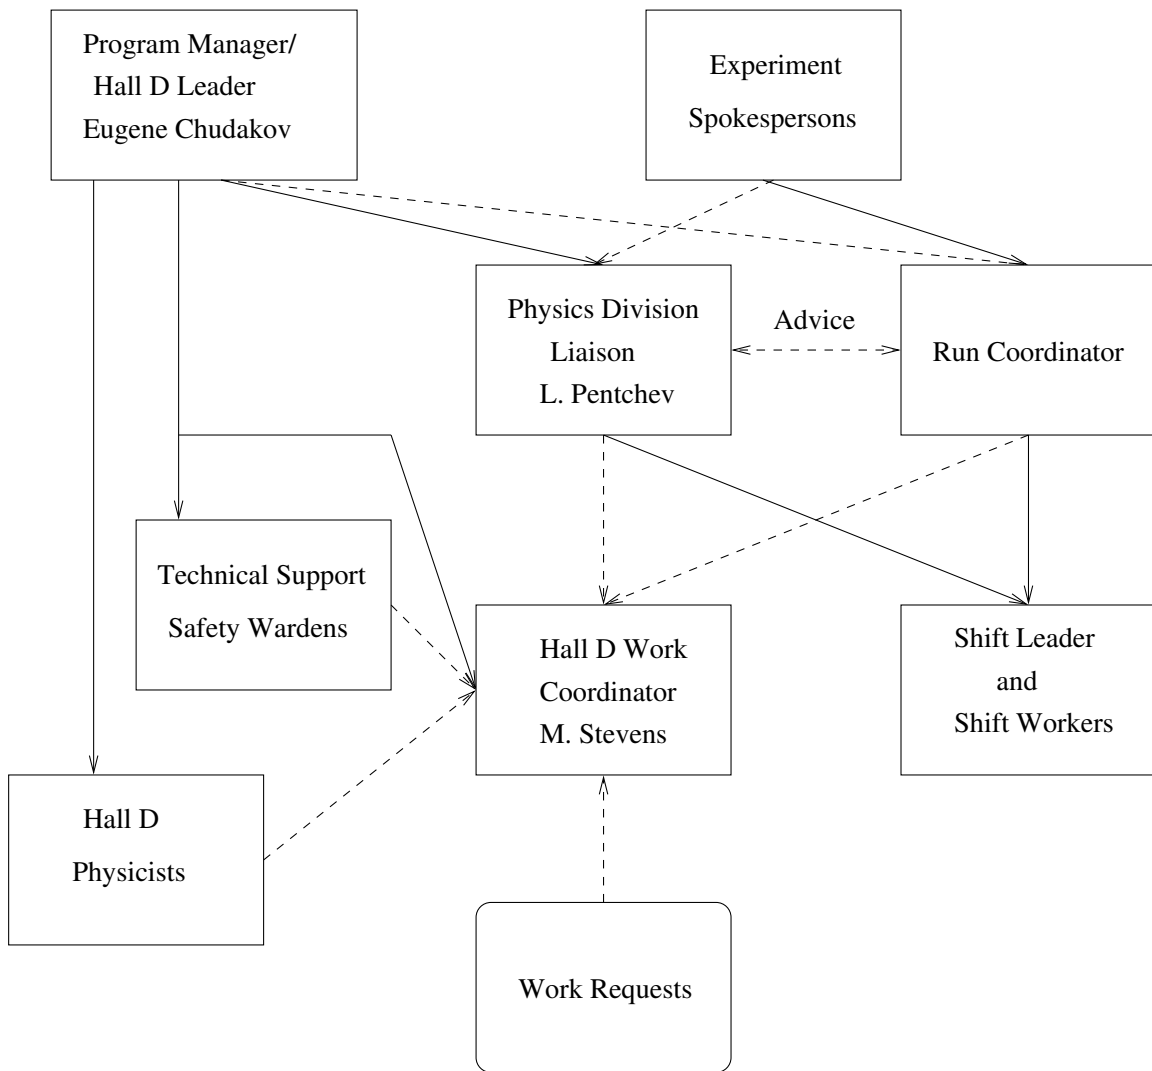

Figure 1: Functional Organization of the Hall D Team. Dashed lines indicate information flow, solid lines indicate responsibility.
- Figure 1: Change B. Zihlmann to L. Pentchev as PDL
- Figure 1: Change T. Carstens to M. Stevens as work coordinator
The operation of the experiment is directed by the Spokespersons and the Hall Leader, Eugene Chudakov. An organization chart for the experiment is found in Figure 1.